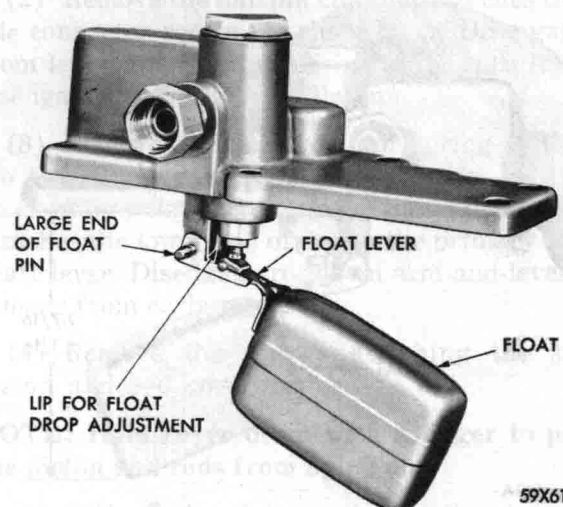

Fig. 54—Removing or Installing Float
(18) Install the needle valve, spring and pin in seat.
(19) Install the float, inserting pin from inlet side of cover (Fig. 54).